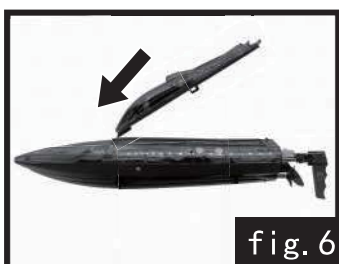

fig. 6
4. Close the cabin cover, fig. 6.